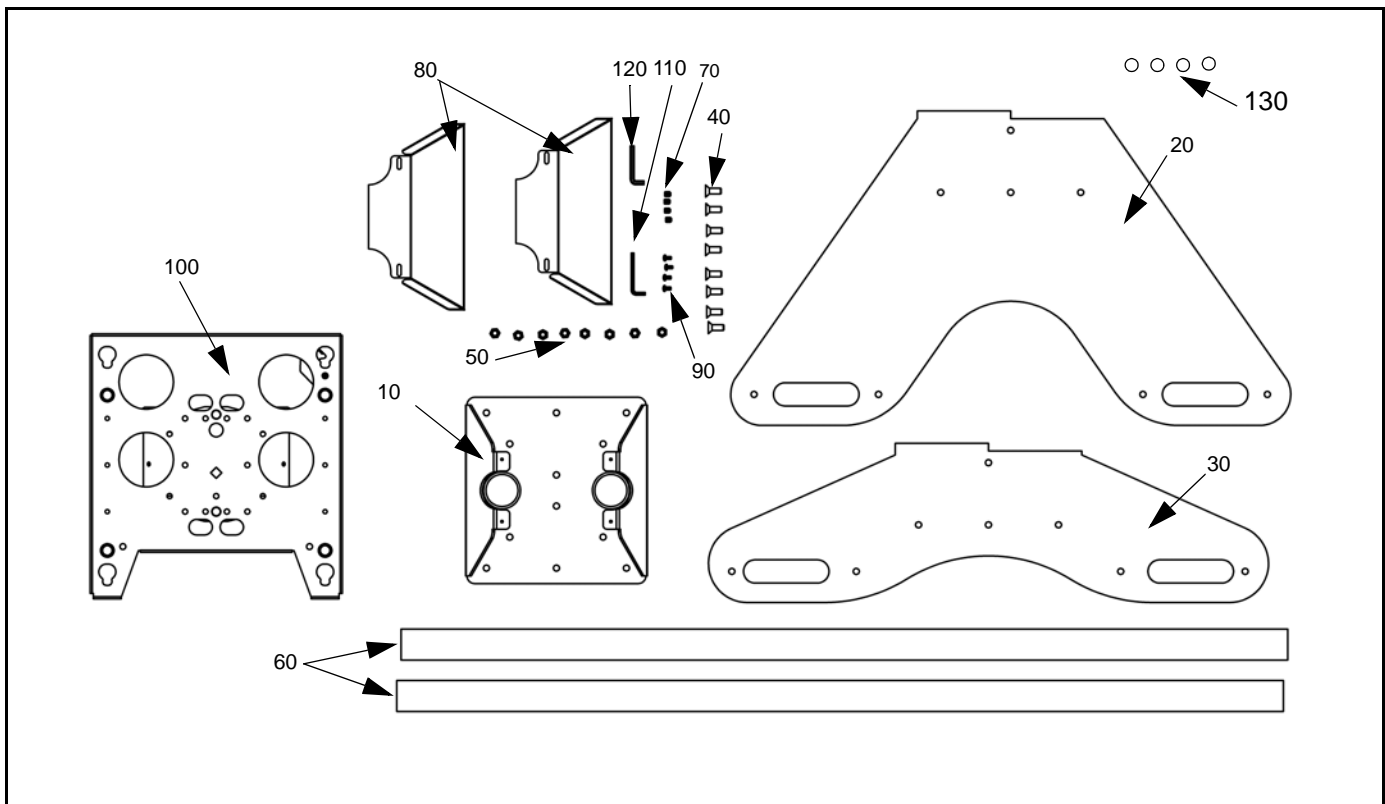

Figure 2: Parts
1. Carefully inspect the Plasma Floor Stand (see figure 2) components for shipping damage. If any damage is apparent, call your carrier claims agent and do not continue with the assembly procedure until the carrier has reviewed the damage.
Numbers in () refer to parts shown in Figure 2.